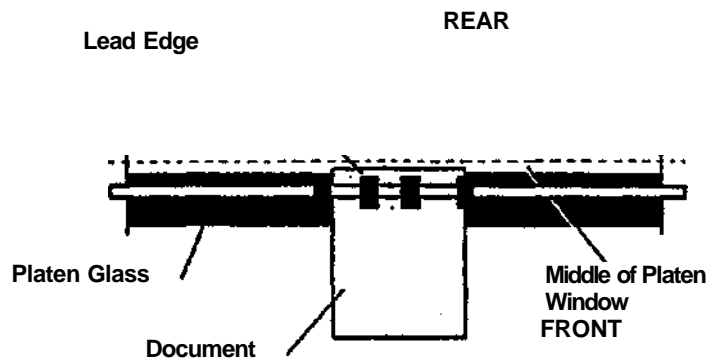

Figure 1 Registration of the Lead Edge - Top View
2. (Figure 1): Examine the position of the lead edge of the document. The lead edge should be within ± 0.25 inches (0.64 cm) of the middle of the Platen Window, if the position does not appear to be correct, continue on with this procedure.